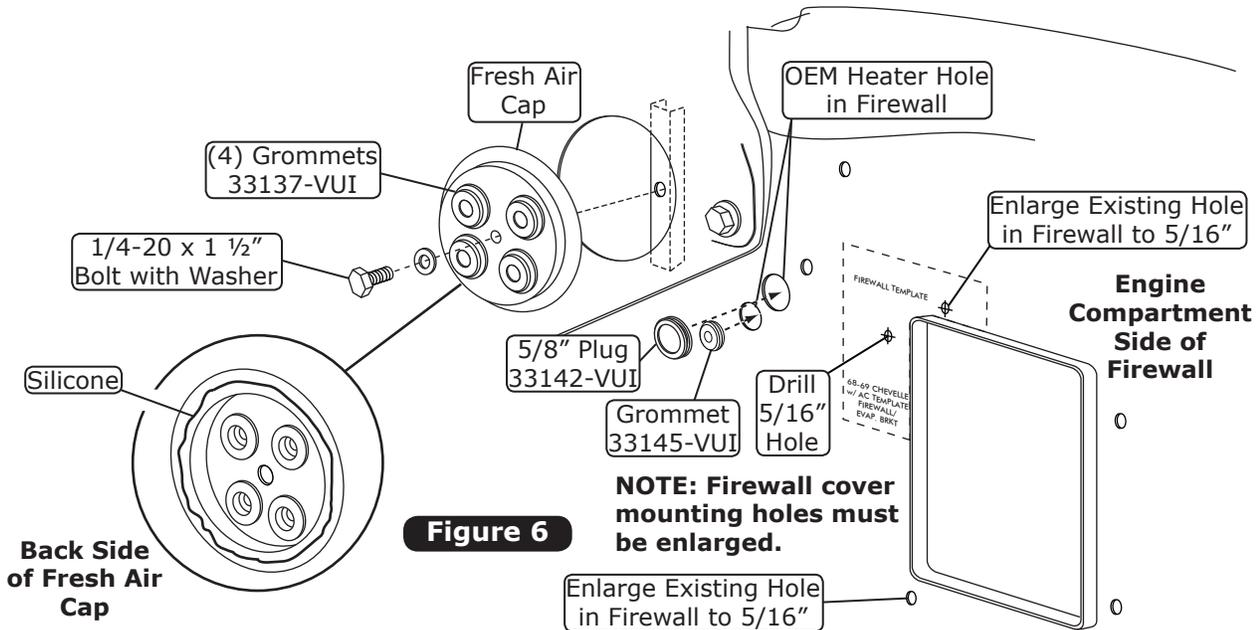

Figure 6
1. Install (4) grommets into fresh air cap (See Figure 6, below).
2. Apply a 1/4" bead of silicone around the back side of the fresh air cap as shown in Figure 6, below.
3. Attach the fresh air cap to the firewall using a 1/4-20 x 1 1/2" bolt and washer (See Figure 6, below). **NOTE: Fresh air cap installs on the engine side of the firewall.**
4. Install a 5/8" plug and grommet in the firewall. See Figure 6, below.
5. Using the template on Page 24, drill a 5/16" hole in the firewall as shown in Figure 6, below.